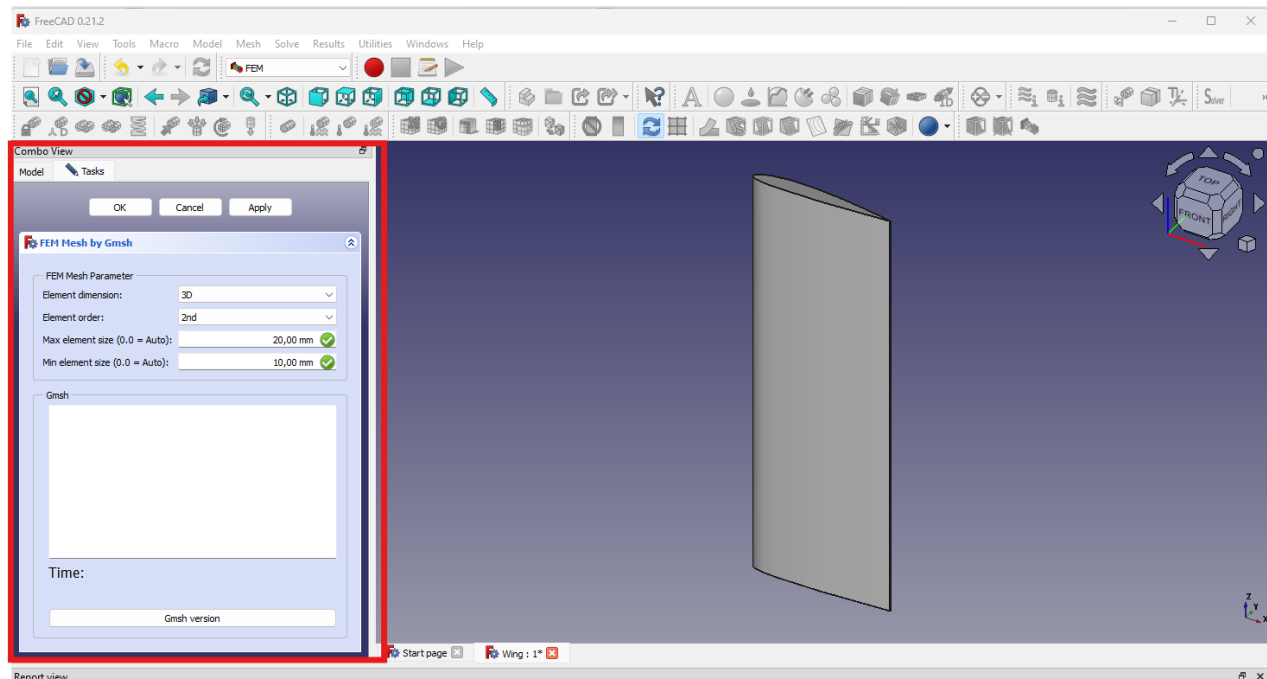

Figure 10: FreeCAD: GMSH parameters
- In the **Tasks** tab, use the following parameters (Figure 10):